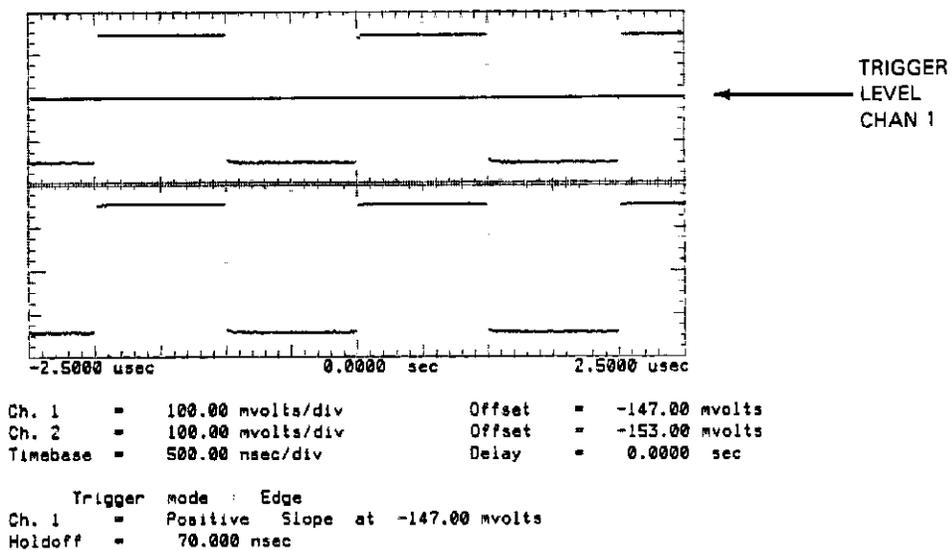

Figure 7-14. Split Screen With Trigger On Chan 1
4. Select TRIG LEVEL. The trigger level will be indicated by a horizontal line through the Chan 1 signal (see figure 7-14).